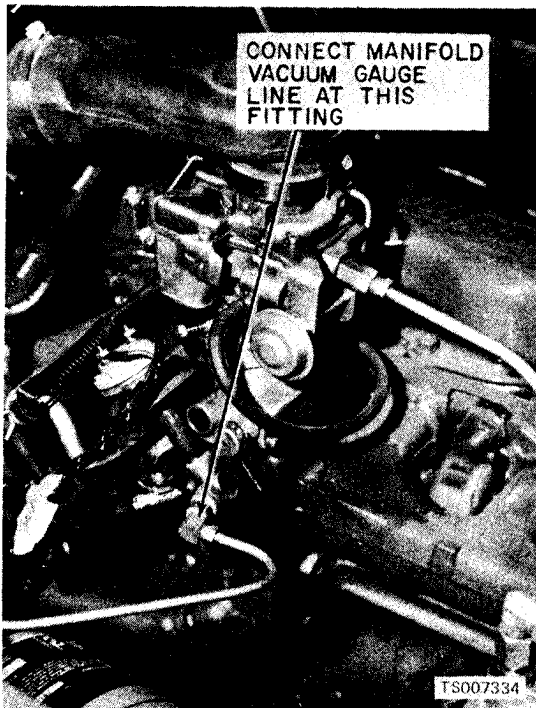

Figure 6-1. Manifold Vacuum Test Connection.
(1) Operate the engine for a minimum of 30 minutes at 1200 RPM or until the engine is at normal operating temperature.
(2) Connect an accurate, sensitive vacuum gage to the intake manifold vacuum line or on the fitting in the intake manifold. (See figure 6-1.)